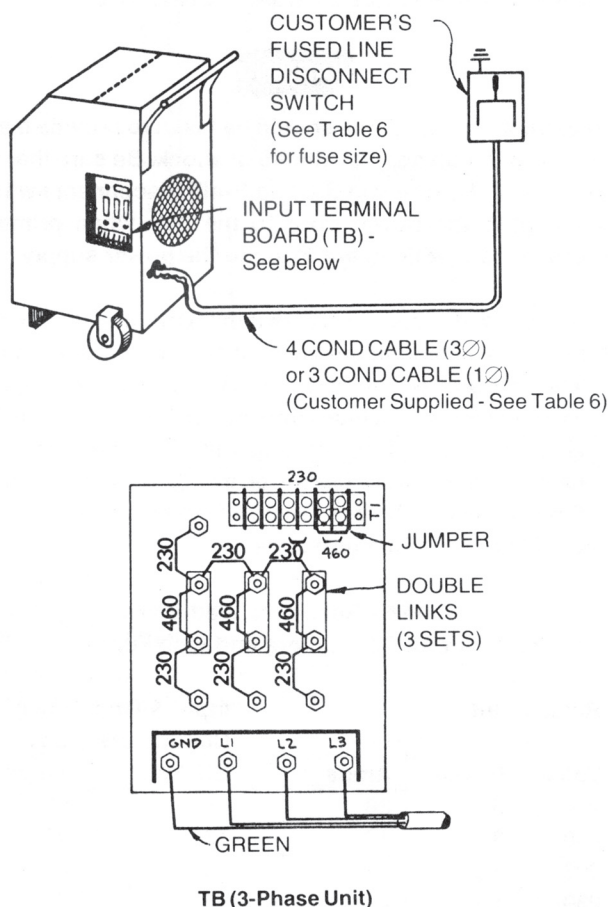

Fig. 2 - Input Power Cable Connection and Terminal Board (TB)
2. As shipped, the PCC-70 is set up for 460 volt, 60 hertz input. If using 230 or 208 volt input, the links on the terminal board (TB) and jumper on terminal block (T1) inside the unit must be repositioned (see Fig. 2). To gain access to the terminal board, remove access door on right side panel.